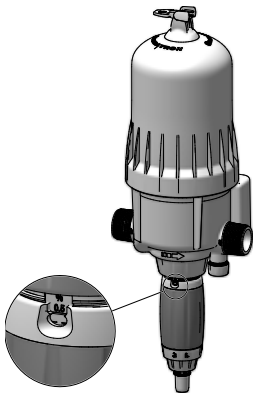

Fig. 15
- Turn the dosing adjustment sleeve clockwise or anticlockwise until the 2 precision indicators of the eyelet show the desired dose rate. (**Fig. 15**).